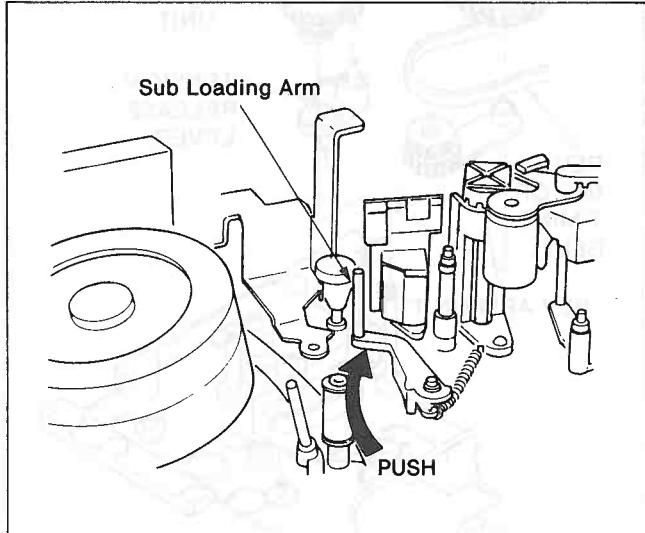

Figure M47
- Push the Sub Loading Arm to the STOP position and keep it as shown in Figure M47.